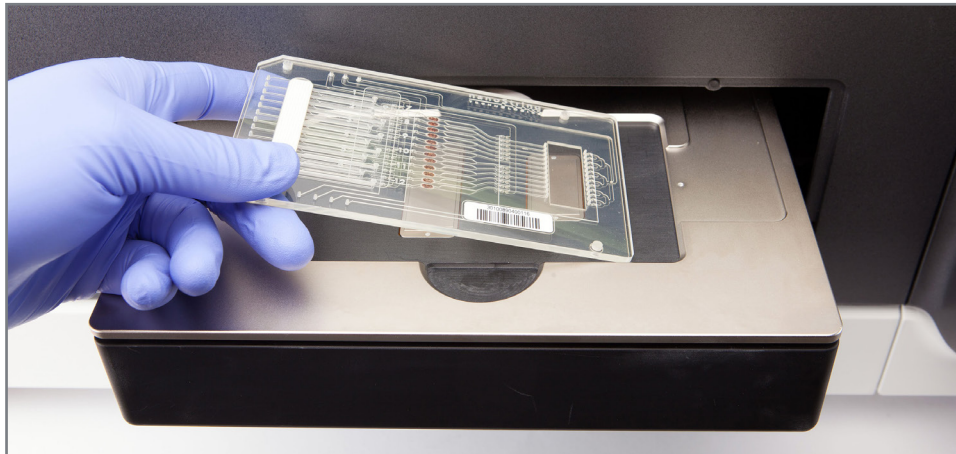

FIGURE 6.5 Place the nCounter cartridge in the drawer. After the drawer closes, the instrument will scan the barcode.
3. Insert the cartridge in the drawer, aligning the notch in the upper left corner (**FIGURE 6.5**). Ensure the cartridge is flush with the drawer.